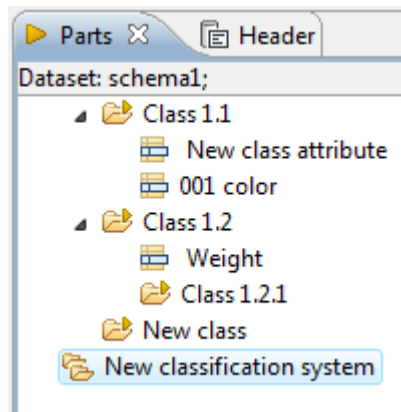

Figure 2. New classification system, named 'New classification system' in the tree
- A new node named **New classification system** is created in the tree (see Figure 2).